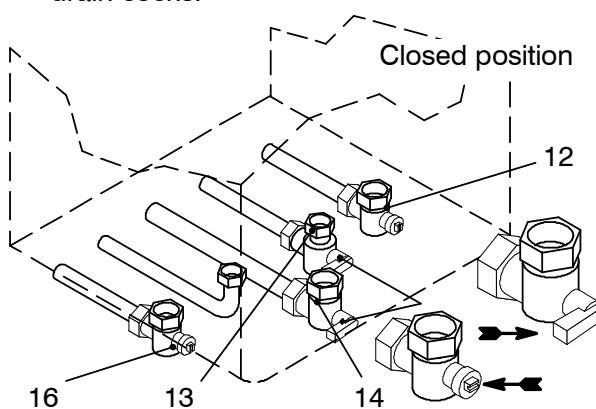

Fig. 9.3
- 1 Check that the gas cock (14 in Fig. 9.3) fitted under the boiler is turned off and the appliance is switched off at the mains isolating spur.
- 1 Turn off the d.c.w. inlet isolating valve (13 in Fig. 9.3) and turn on the hot water taps and any drain cocks.
- 1 Close the c.h. isolating valves (12 and 16 in Fig. 9.3).